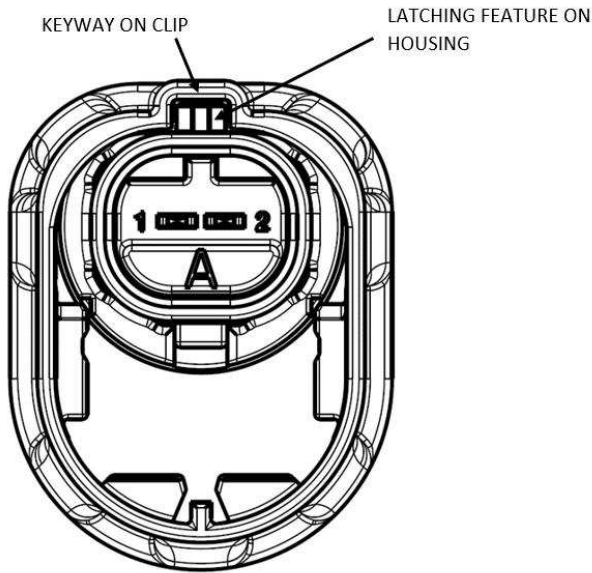

Figure 24
- ii. Align the key way on the mounting clip with the latching feature on the mating header or adapter as shown in Figure 24.